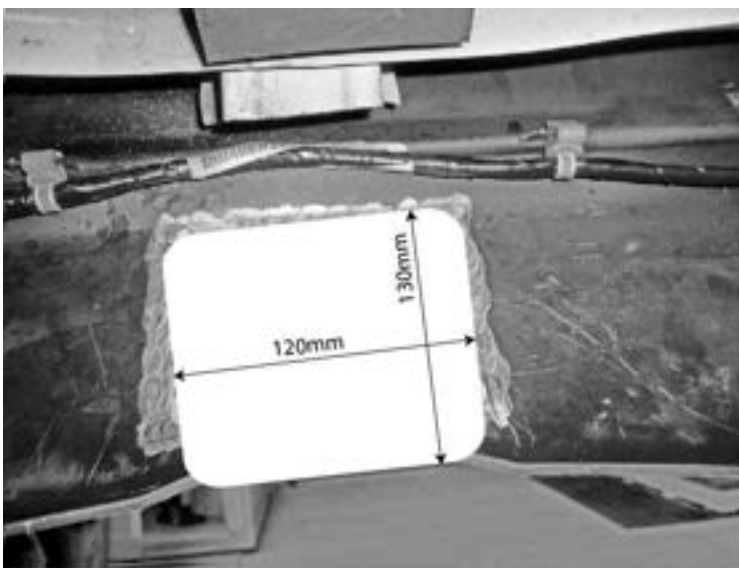

Figure 2 – Bumper Cut out illustration
4. Find the centre-line of the bumper and make a cut 120mm wide and 130mm deep, as illustrated in Figure 2.
5. Drill 5mm holes x 2, 180mm from the centre-line and 25mm from the lower edge of the bumper, on the driver side, to fit the plug bracket (item 11).
6. Feed the bolt & wire assemblies (item 14 & 15), in the horizontal holes on the chassis. Locate the towbar in place, & fit nut, spring washer and flat washer (items 6, 7 & 8) to hold it in place (only in the front hole, which has been drilled).
7. Feed the nut plate (item 12 on driver side & item 13 on the passenger side).
8. Fit the side bracket (item 10) on both sides, align the holes and fit bolts & washers.
*Note: The long bolt (item 9) goes through the spacer tube, into the weld-nut in the towbar assembly.*